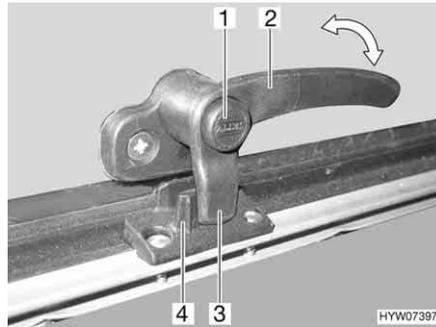
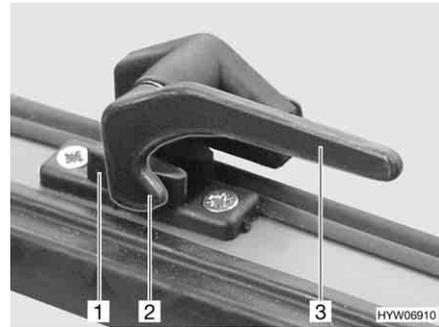

Fig. 73 Catch lever with safety knob in "closed" position
Fig. 74 Catch lever in "closed" position
- Press and hold the security button (Fig. 73,1), if present.
- Turn the catch lever (Fig. 73,2 or Fig. 74,3) a quarter turn towards the centre of the window.
- Turn the catch lever (Fig. 73,2 or Fig. 74,3) a quarter turn towards the window frame. The locking catch (Fig. 73,3 or Fig. 74,2) on the catch lever is entirely on the inner side of the window catch (Fig. 73,4 or Fig. 74,1).
- Firmly closed (Fig. 73 and Fig. 74)